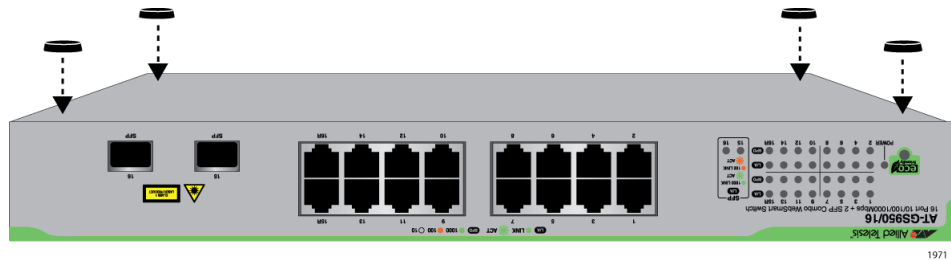

Figure 6. Attaching the Rubber Feet
3. Attach the four rubber feet to the bottom of the switch as shown in Figure 6.